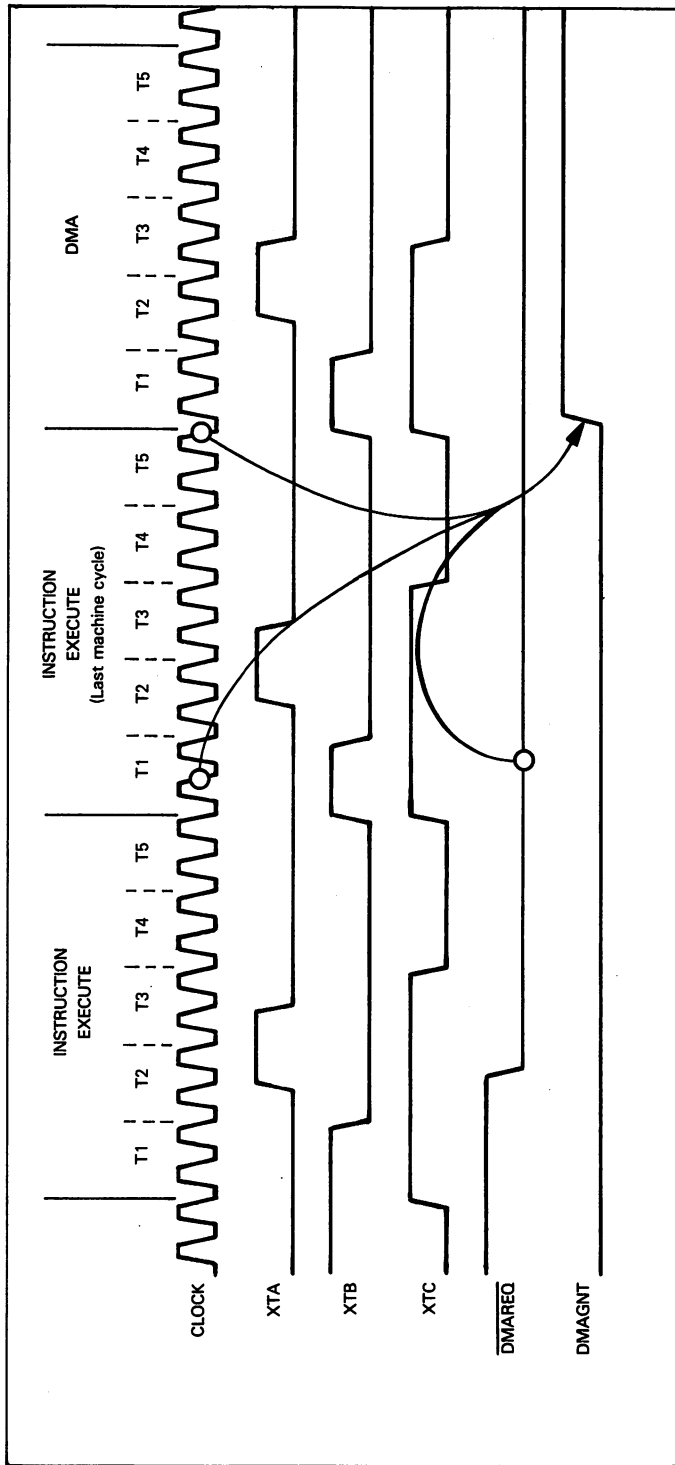

Figure 13-21. IM6100 DMA Initiation Timing
IM6100 Hold state DMA logic is similar to that which we have described for the 8080A in Chapter 4. **External logic that wishes to take control of the System Bus makes a DMA request by inputting  $\overline{\text{DMAREQ}}$  low.** The CPU samples  $\overline{\text{DMAREQ}}$  in the middle of the first clock period of a machine cycle. Upon sensing  $\overline{\text{DMAREQ}}$  low, the CPU acknowledges the DMA request at the end of the currently executing instruction, providing no higher priority control input exists. Table 13-1 and associated text summarize control priorities. **When the CPU acknowledges a DMA request, it outputs DMAGNT high and suspends program execution.** The Data/Address Bus is floated and all select lines are output high; the clock signals XTA, XTB and XTC continue to function, clocking five-clock-period machine cycles. External logic must now use the System Bus to perform all DMA transfers. **Figures 13-21 and 13-22 illustrate DMA initiation and termination timing, respectively.**
**Timing for the initiation and termination of a Reset condition is identical to timing for DMA initiation and termination, as illustrated in Figures 13-21 and 13-22. In these two figures, by substituting RESET for DMAREQ, and by eliminating the DMAGNT signal, you create Reset initiation and termination timing.**